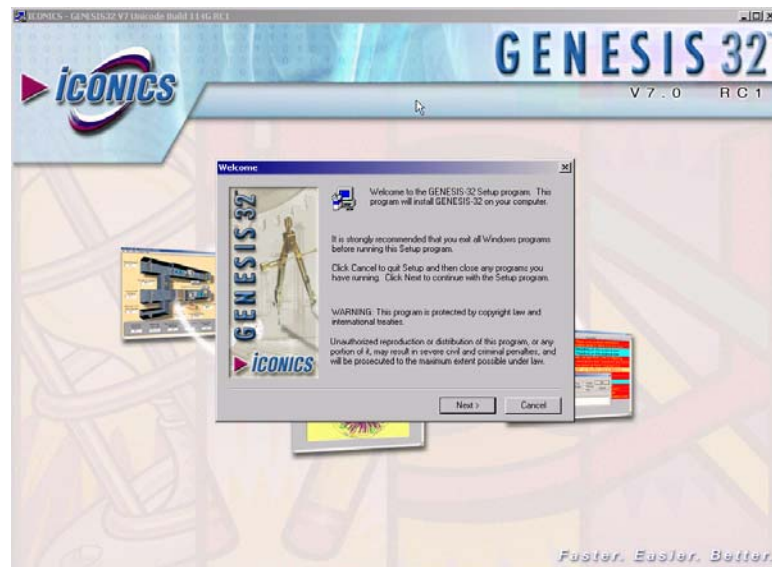

Figure 2.13
3. The WELCOME screen in **Figure 2.13** appears. Click on the **Next** button.